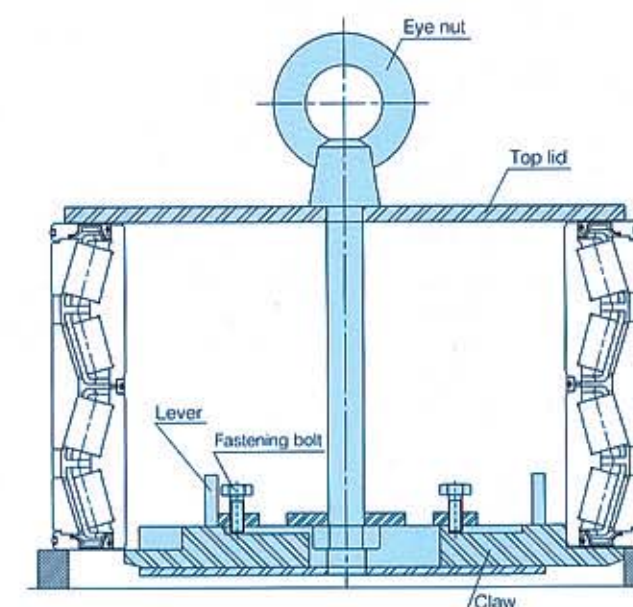

Fig. 3.20
- (1) Pull levers to retract the claws into the main body, then insert the lifting tool into the bearing bore.
- (2) Push levers to extend the claws. After confirmation that the claw upper end surface tightly contacts the bearing end surface, tighten the fixing bolt.
- (3) Set the top lid at a right angle to the main body and tighten the eye nut sufficiently.
- (4) Thread the wire through the eye bolt and lift the bearing slowly with a crane.
- (5) To assemble the bearing into a chock, allow the bearing center line to coincide with the chock bore center line as much as possible. Insert the bearing into the chock slowly while taking care to minimize changes in the wire's tension during insertion of the bearing into the chock.
- (6) After setting the bearing to the specified position, loosen the eye nut and retract the claws into the lifting tool body, then remove the lifting tool. For easy and firm assembling of the sealed-clean bearing, the use of a dedicated lifting tool is essential. For this purpose, provide a lifting tool insertion space as shown in **Fig. 3.20**. Consult NSK because the dimensions may vary depending on the chock weight and construction.